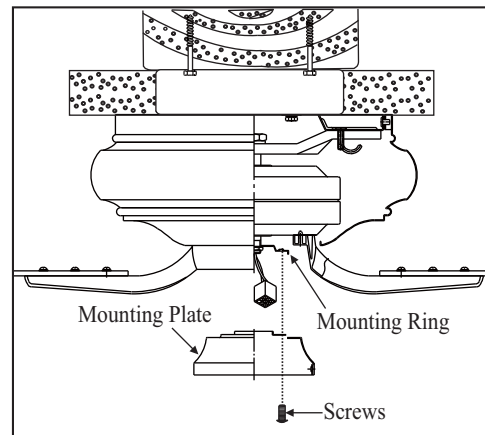

Figure 13
2. Place the key holes on the mounting plate over the 2 screws previously loosened from the mounting ring, turn mounting plate until it locks in place at the narrow section of the key holes. Secure by tightening the 2 screws previously loosened and the one previously removed (Fig. 13).